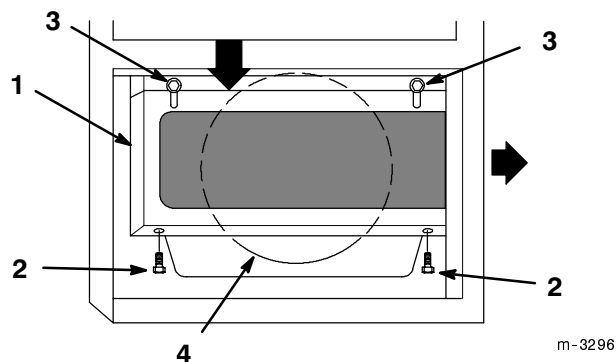

Figure 64
1. To remove cooling screen remove lower bolts and loosen top bolts. Slide screen down and rearward to expose oil cooler (Fig. 64). Save all mounting hardware.
3. Clean off engine air intake (Fig. 64).
4. Install screen from rear and raise over oil cooler. Secure with previously removed hardware (Fig. 64).